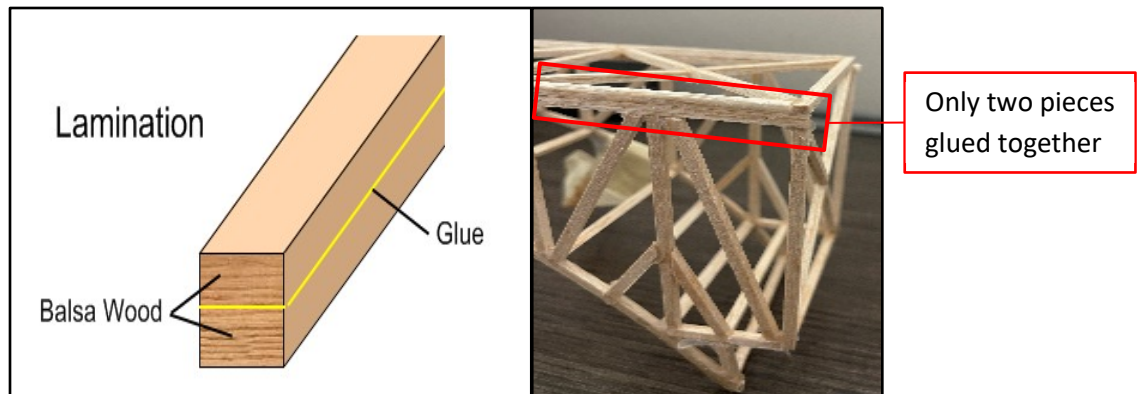

Figure 2. Acceptable Lamination
- c) Lamination shall be permitted one layer thick, in either direction, as shown in the picture below. Lamination is gluing two members along their length. See Figures 2 & 3 for more details.